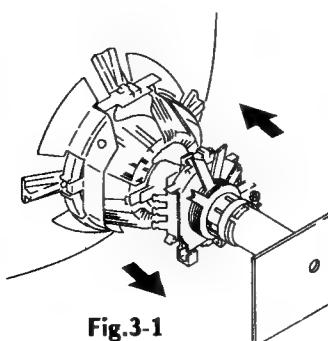

Fig.3-1
3. Move the deflection yoke backward, and adjust with the purity control so that red is in the center and blue and green are at the sides evenly. (Fig.3-1 to 3-3)
4. Move the deflection yoke forward, and adjust so that the entire screen becomes red. (Fig.3-1)